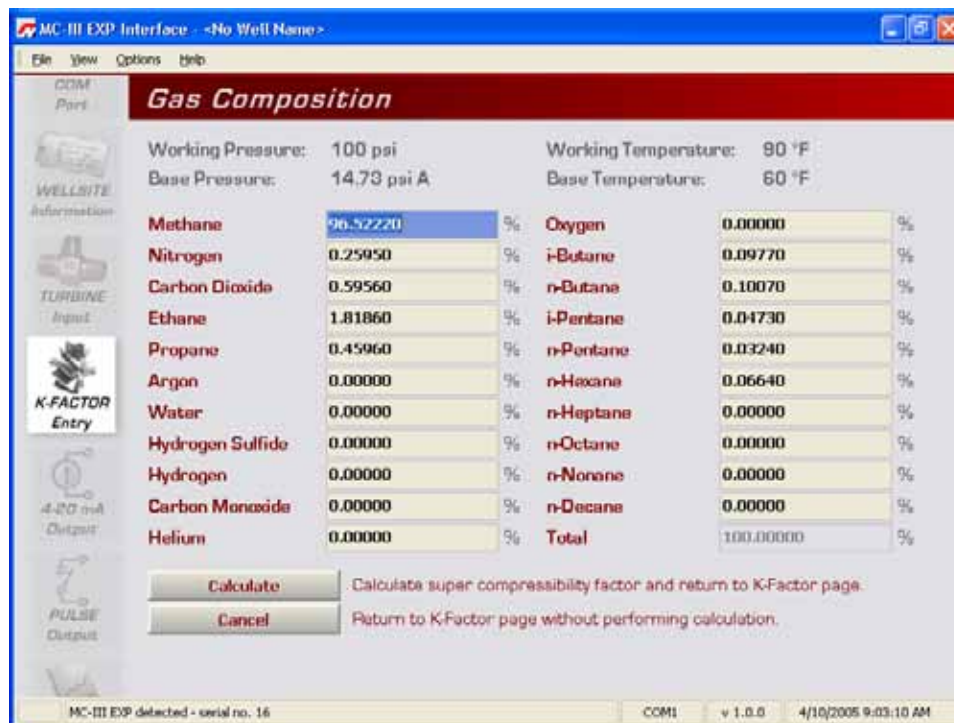

Figure 4.26—Gas Composition screen
6. Enter a known compressibility factor, or press “Calculate compressibility from gas comp.” to view a selection of gas compositions (Figure 4.26).